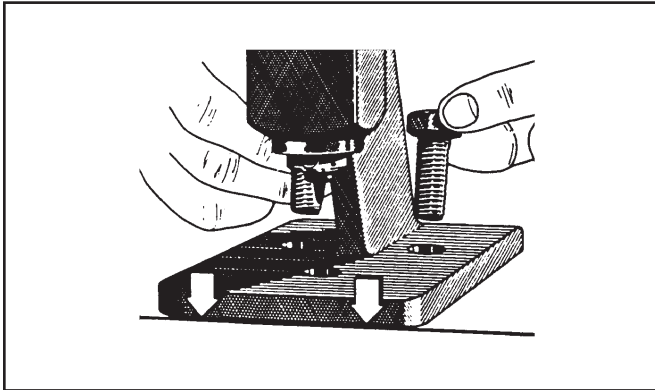

Figure 10. Chain Breaker Mounting
1. Mount the chain breaker flush with the side or front of a flat, clean work surface (Figure 10).